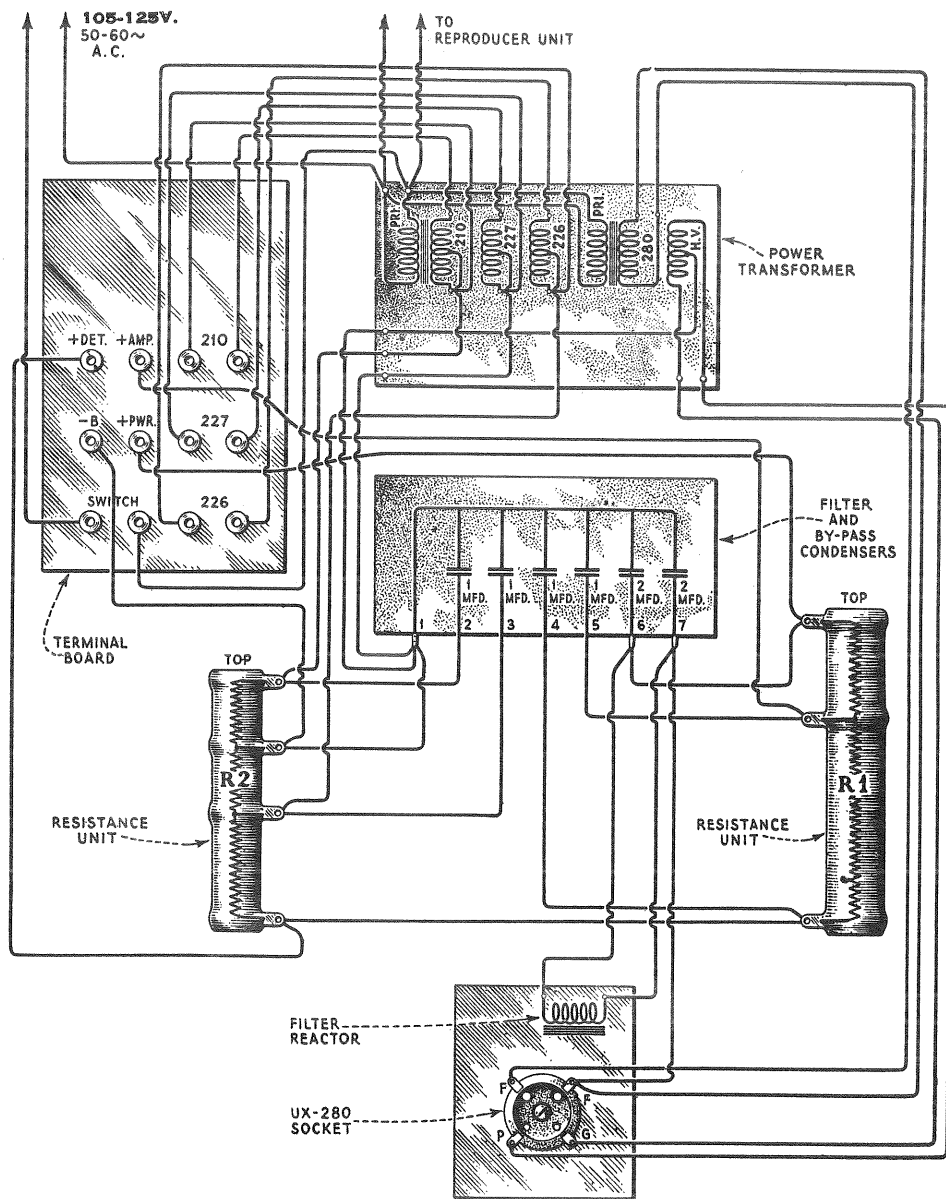

Figure 17—Wiring diagram of Sterling S. P. U.
S. P. U. CONTINUITY TESTS—Sterling—Figure 17—See Figure 7 for terminal numbers